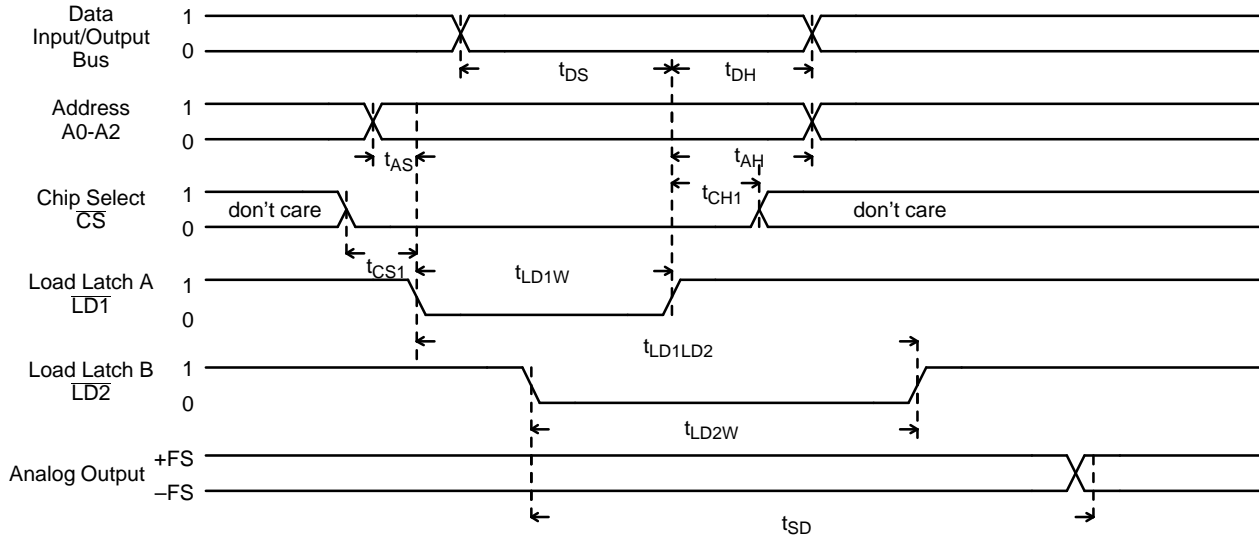

Figure 1. Loading Latch A and Updating Latch B
- 4 See Figures 1, 2, and 3. All digital input signals are specified with t_R = t_F = 10 ns 10% to 90% and timed from a 50% voltage level.